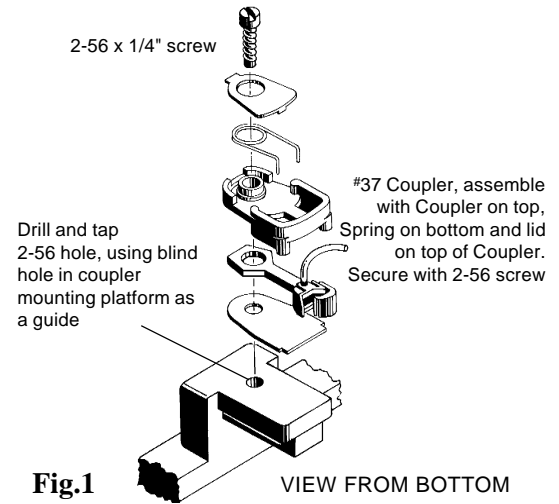

Fig.1
3. Assemble the #37 Coupler with Coupler on top, Torsion Spring on bottom and lid on top of Coupler, as shown in Fig.1. Install Coupler, align and secure with a 2-56 screw.